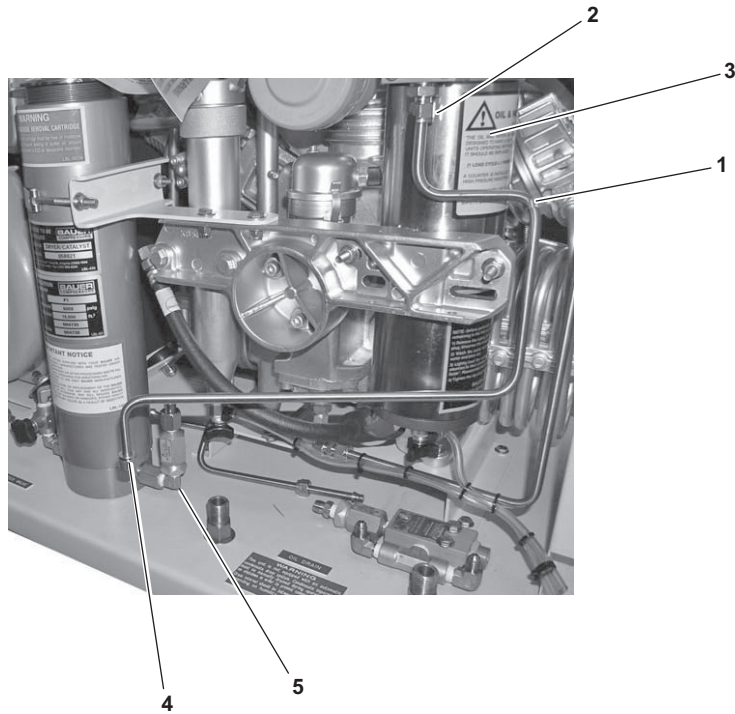

Figure 6-24. Line Connecting Final Separator and P1 Check Valve
- (4) Using a 5/8 inch wrench, install the line (figure 6-24, item 1) on the the flare fitting (figure 6-24, item 2) of the final separator (figure 6-24, item 3) to the P1 check valve (figure 6-24, item 5), turning the flare fittings (figure 6-24, items 2 and 4) at both ends of the line CW until snug.